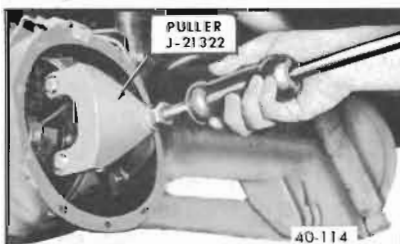

Figure 40-114—Removing Differential Case Assembly
9. Remove two ring gear retaining bolts from differential case and install Ring Gear and Case Remover J-21322 with slide hammer as shown in Figure 40-114. Remove case assembly and place right and left bearing outer races and shims in sets with marked bearing caps so that they can be reinstalled in their original positions.